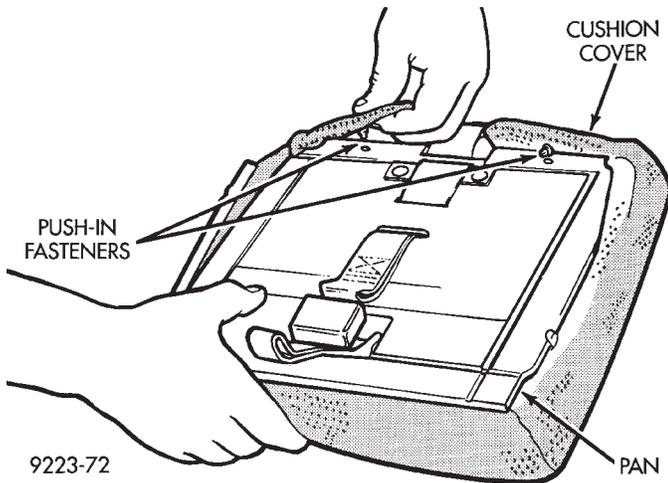

Fig. 31 Child Seat Cushion Cover
- (3) Disengage push-in fasteners holding trim cover to cushion pan (Fig. 31).
- (4) Separate trim cover from cushion pad and pan.
- (5) Separate pad from pan.